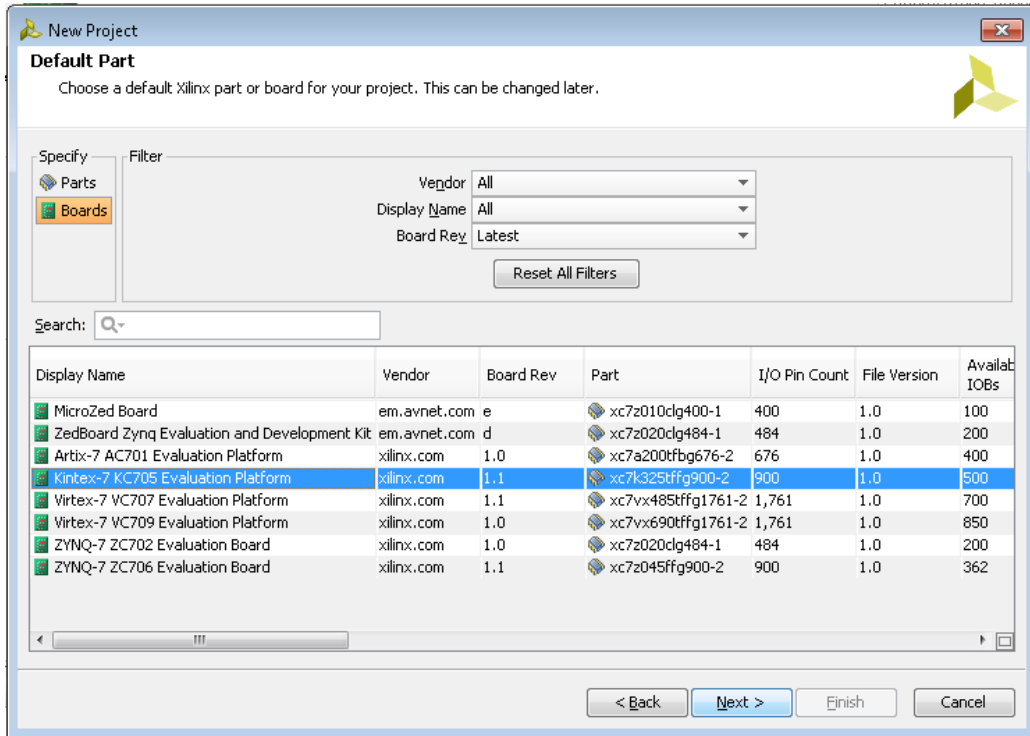

Figure 5: Specify Default Part or Board
- In the Default Part dialog box (Figure 5), specify **Boards**, and select **Kintex-7 KC705 Evaluation Platform**, and click **Next**.